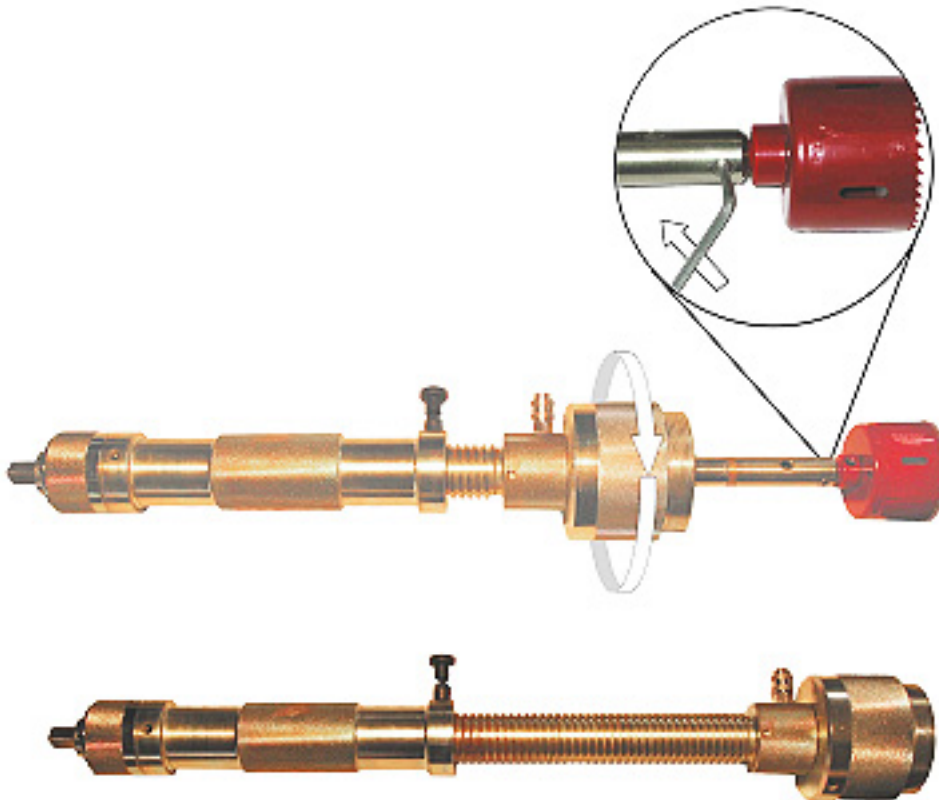

fig. 3
- 3 - Install the hole saw cutter and, using the hexagonal spanner, lock it by screwing the screw placed on the mandrel for hole saw cutters (detail in fig. 3). Remove the lid that covers the saw teeth and unscrew the machine anticlockwise so that the hole saw cutter is retracted inside the block (fig. 3).